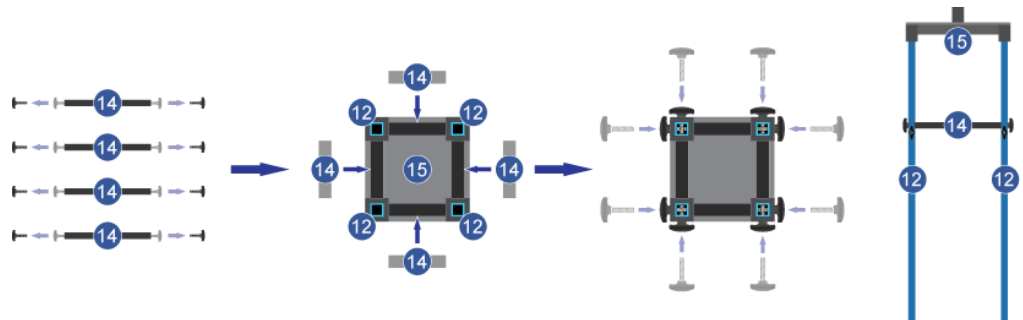

Figure 18 - ALT-930-CKIT Calibration Kit Assembly – Step #2
As shown in Figure 18, unscrew and remove the two (2) finger-knob bolts from each of the four (4) leg-stabilizing cross-bars14, for a total of eight (8) bolts removed. One cross-bar at a time, line cross-bar14 up between the pre-drilled holes in two adjacent Mounting Structure Legs12. Once aligned, insert the finger-knob bolts through the legs into either side of the cross-bar and tighten.